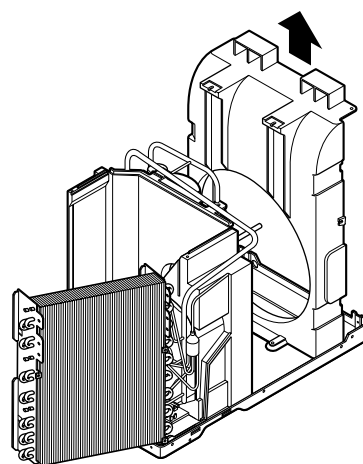

Figure 8
2. Remove the shroud. (See Figure 8)